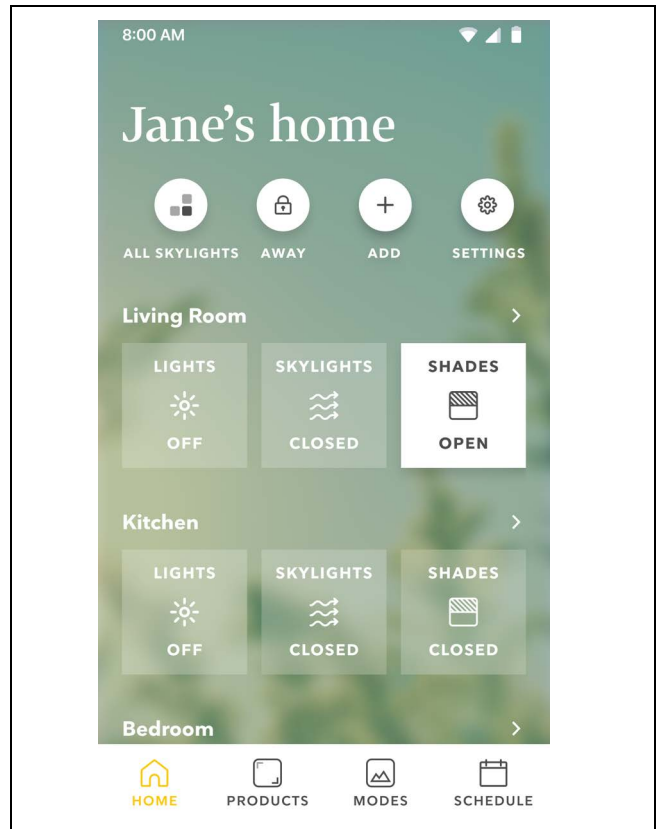

Figure 64
1. Download and install the Marvin Home App. Install following app instructions. See Figure 64.